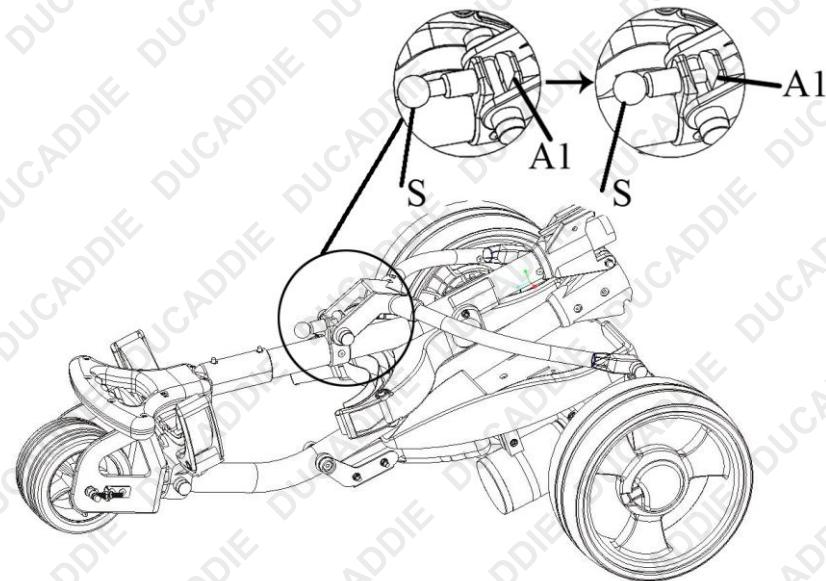
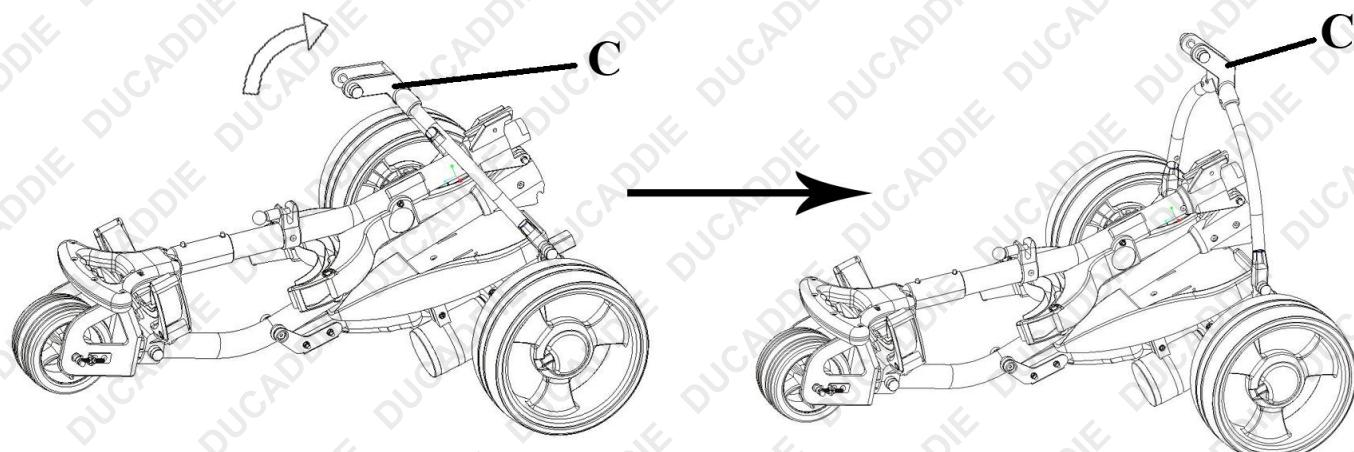

Fig 1
Fig. 2.
- To release the wheel, press the lock pin (A) and pull the wheel out.
- Pull the lock (S) to the direction as shown in Fig 1. To release the lock bar and raise the middle Support Frame (C) to the upright position as shown in Fig. 2.